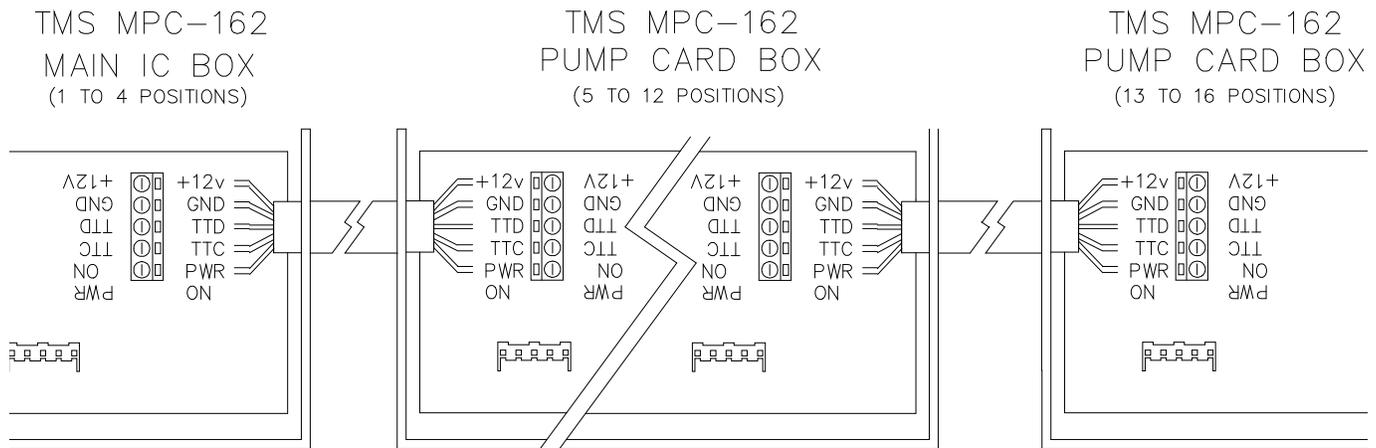

Figure 5 TMS MPC-162 IC Box Connection Diagram
14. The EMERGENCY OFF connector supplies a dry contact relay closure across COM. and N.O. while console is on and not in "EMER OFF" condition. While console is turned OFF via the OFF/ON key, and/or during the time the "EMER OFF" button has been pressed so that the "EMER OFF" light is flashing, the connector supplies an open circuit across COM and N.O. Figure 5 shows the Emergency Off connector located in the main TMS MPC-162 IC Box.